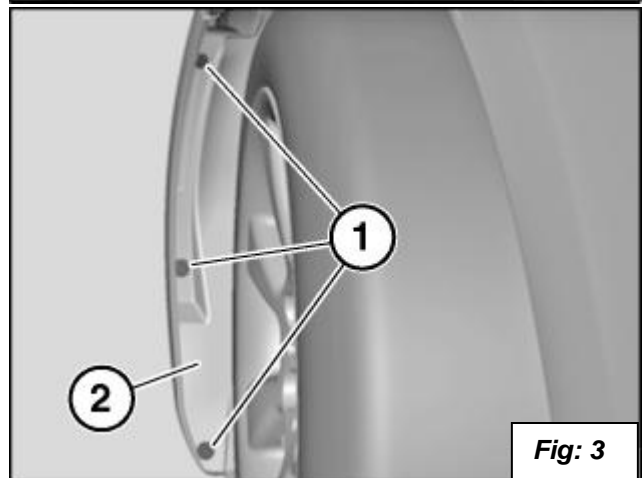

Fig: 3
5. On the left side remove the screws in location (1) and pry out the inner fender (2) to gain access to the two screws you will remove in the next step. See **figure 3**.